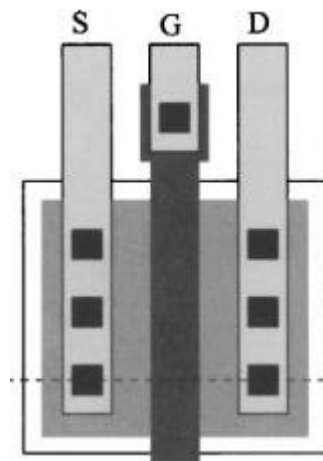

Figure 4
- (b) Explain the differences of forming a polysilicon layer using negative resist and positive resist. Your explanation should be based on Figure 4. Draw the pattern of the mask to help your explanation.